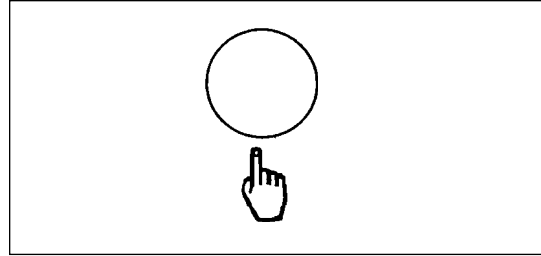

Figure 17
1. Press and hold the green one touch button (figure 17) until you hear a *double beep* from the machine. **NOTE:** The time required for this will be approximately 15 seconds.